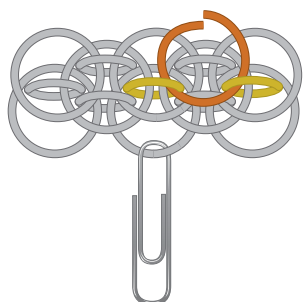

FIG. 5
5. Thread 1 large open (orange) jump ring through the center and right small (yellow) jump rings of the previous row (**FIG. 5**).